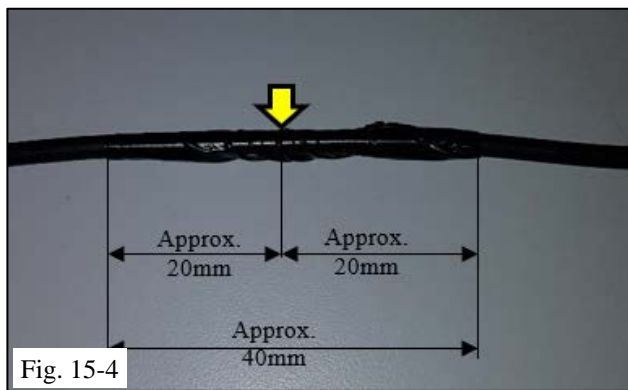

Fig. 15-4
(2) Wrap electric insulating tape on the trailer power wire from B+ at the marked locations approximate 20mm in each side of the markings (exemplified in Fig. 23-2) on a length of approximate 40mm (Fig. 15-4).
(3) Repeat steps 5(b)(1) and 5(b)(2) for Bite Clamp Wire Ties #2, #3 and #4
(4) Repeat steps 5(b)(1) and 5(b)(2) for Push Pin Wire Ties #1 and #2.